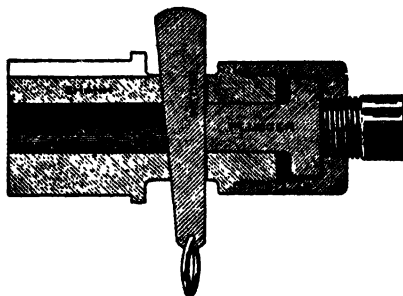

FIG. 5,497.—Jarecki nipple holder for threading close and short nipples.
*The ordinary method of cutting nipples as indulged in by some plumbers and others as shown in fig. 5,496 for lack of proper tools, is very unsatisfactory.*
In emergency, the proper way to cut a nipple with such a makeshift holder so as not to split the coupling is to use adjustable dies, as, for instance, the Armstrong pattern (figs. 5,493 to 5,495). First take a very light cut, then adjust dies and take one or more additional cuts to finish. The cost of a properly made nipple holder, such as shown in fig. 5,497, is so small that it should be included in every pipe threading outfit.
Thus in fig. 5,498, it is necessary to change the position of pipe line L, at A, to same parallel position as that of line F, because of some obstruction such as the wall E, of the building. When the two lines L and F, are to be piped with elbows or bends other than 90°, the pipe fitter encounters a problem of finding the length of the pipe H, connecting the two elbows A and C, also to determine the distance BC, in order to fix the point A, so that the two elbows A and C, will be in alignment.